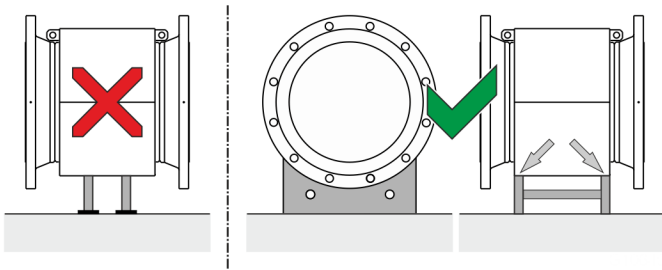

Figure 9: Support for nominal diameters greater than DN 400
- Place the supports at the edge of the sensor housing (see arrows in Figure 9).